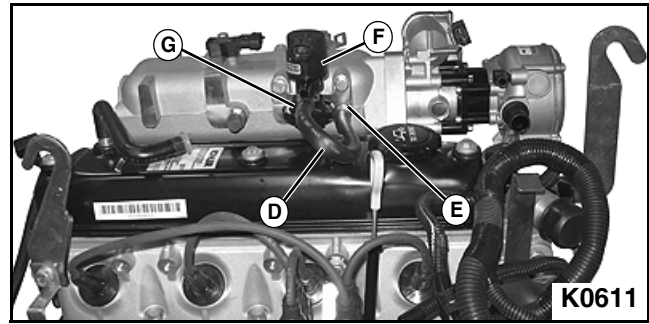

Figure 3-96
3. Disconnect fuel control valve vacuum hose (D) from intake manifold port (E). Close all openings. **See Figure 3-96.**
4. Pull fuel control valve (F) straight up to remove from fuel control valve mounting bracket (G).